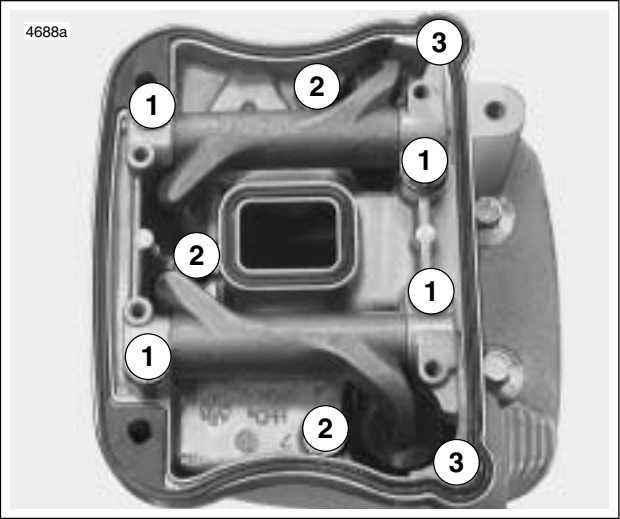

Figure 3-90. Lower Rocker Box Fasteners
9. See Figure 3-90. Install **new** gaskets with the bead facing up. Place lower rocker box assembly (with rocker arms and shafts) into position. Place push rods in rocker arm sockets.
10. See Figure 3-90. Install hardware attaching lower rocker cover to cylinder head in the following order. After loosely installing all fasteners, use a cross pattern on the four large bolts that fasten the lower rocker box to head to tighten and then torque to specifications. This will bleed the tappets. Finish tightening remaining fasteners. Fastener sequences, sizes and torque specifications are listed in Table 3-22.
- a. Tighten bolts (1) to 18-22 ft-lbs (24-30 Nm).
- b. Tighten bolts (2) to 135-155 **in-lbs** (15-18 Nm).
- c. Tighten bolts (3) to 135-155 **in-lbs** (15-18 Nm).